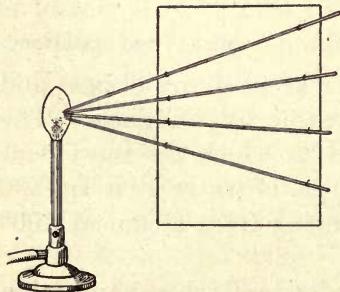

FIG. 120.—Metals vary in their conduction of heat.
**Experiment 44.**— Arrange four wires, one of copper, one of brass, one of iron, and one of German silver, on a piece of cardboard as shown in Figure 120. Hold the ends in the flame of a Bunsen burner. Determine their relative conductivities by touching a match to them at equal distances from the flame.